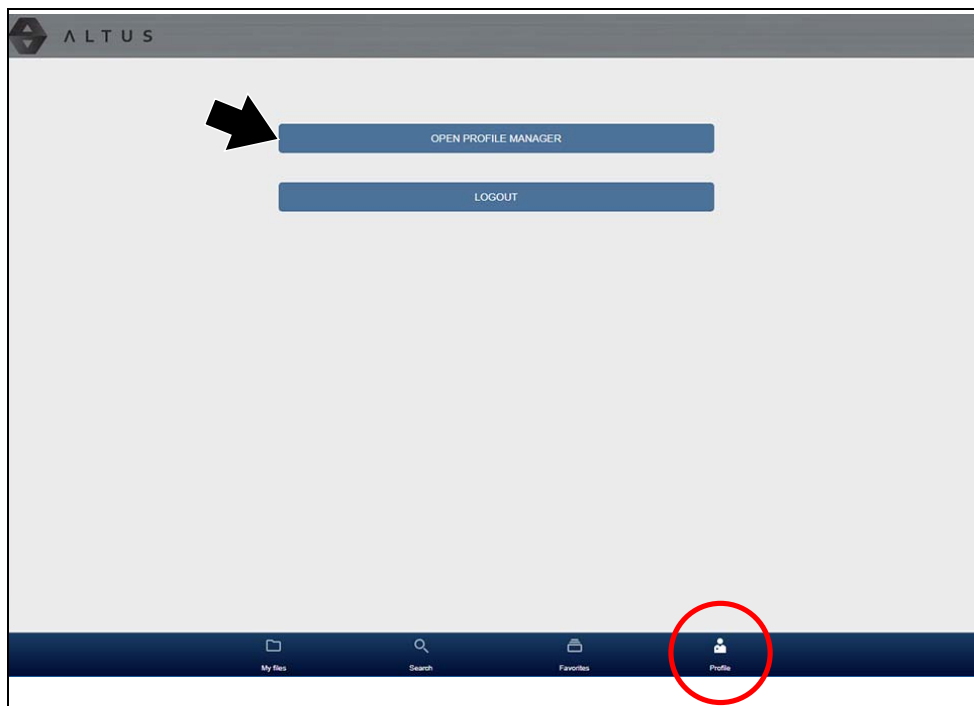

Figure 14-17
- Open Profile Manager (Figure 14-17), see Using Profile Manager on page 101
To open the Profile Manager screen, select **Profile** from lower toolbar, then select **Open Profile Manager** (Figure 14-17).